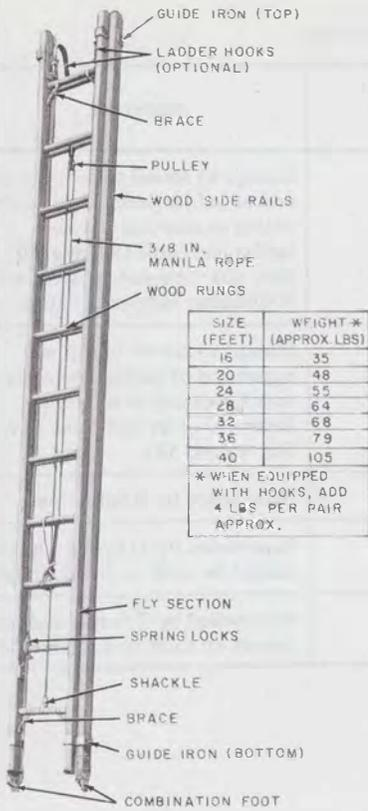

Fig. 1—C Extension Ladder
**3.01** Extension ladders and their features are listed in Table B and are shown in Fig. 1, 2, and 3.